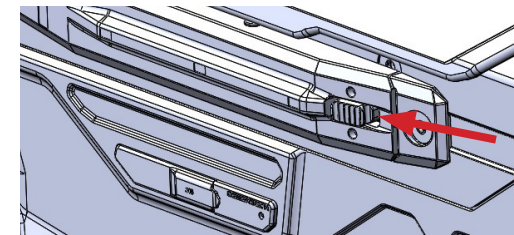

Fig. a-4
- Place the MDR on its right side. Use any instrument that has a small, strong edge to it, (such as the open end of a spent cartridge) press the ejection release tab forward and up to remove the ejection panel. (Fig. a-4)